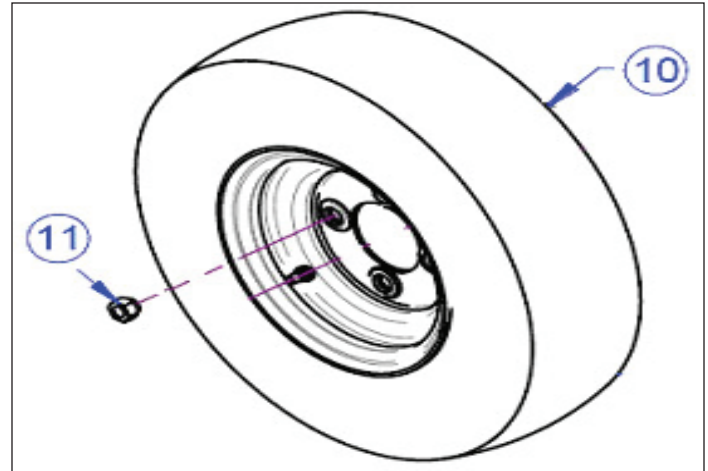
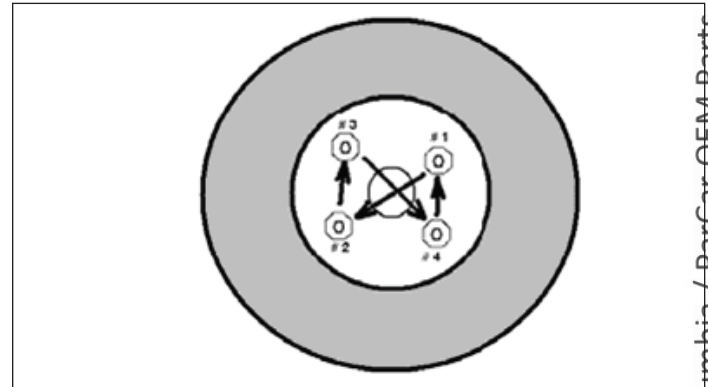

Figure 7-1. Rear Wheel Assembly
Figure 7-2. Criss-Cross Tightening Pattern
1. Before raising vehicle, with wheels on the ground, break loose the lug nuts (11, Figure 7-1).
7. Tighten four lug nuts (11, Figure 7-1) by hand and wrench until snug using a criss-cross pattern (Figure 7-2).